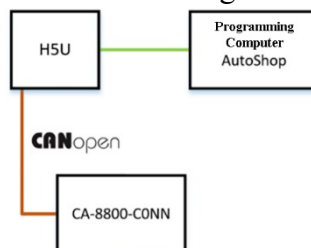

Fig.5-6-1 Communication Link Diagram
1. See Fig.5-6-1 for the communication link diagram.